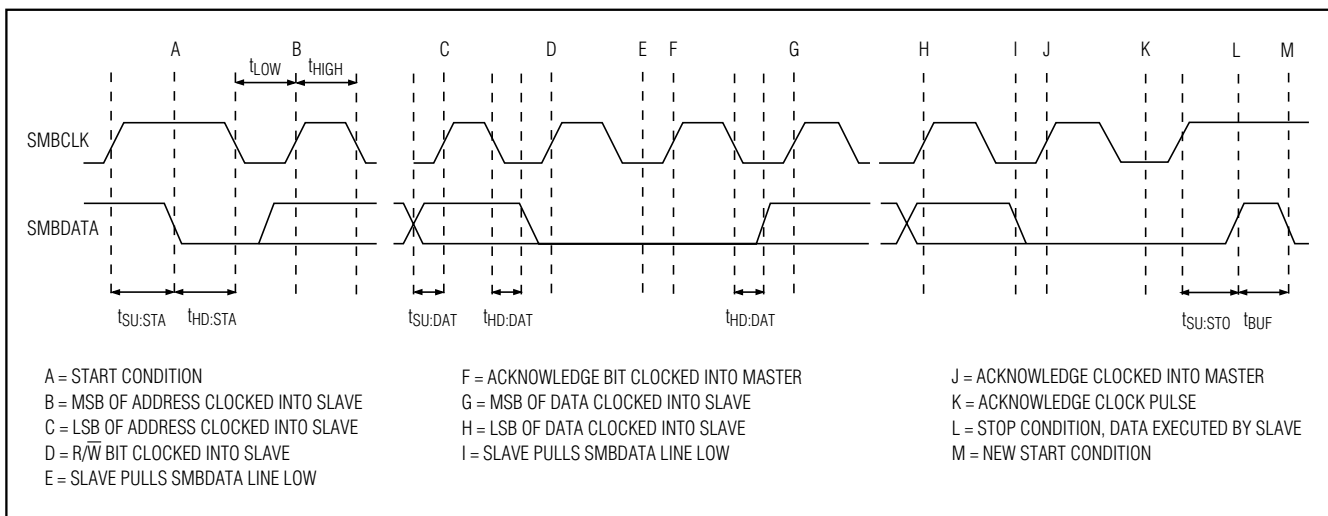

Figure 12. SMBus Write Timing
Communication starts with the master signaling the beginning of a transmission with a START condition, which is a high-to-low transition on CRF/SDA while CTL/SCL is high. When the master has finished communicating with the slave, the master issues a STOP condition (P), which is a low-to-high transition on CRF/SDA while CTL/SCL is high (Figures 10, 11). The bus is then free for another transmission. Figures 12 and 13 show the timing diagram for signals on the 2-wire interface. The address byte, command byte, and data byte are transmitted between the START and STOP conditions. The CRF/SDA state is allowed to change only while CTL/SCL is low, except for the